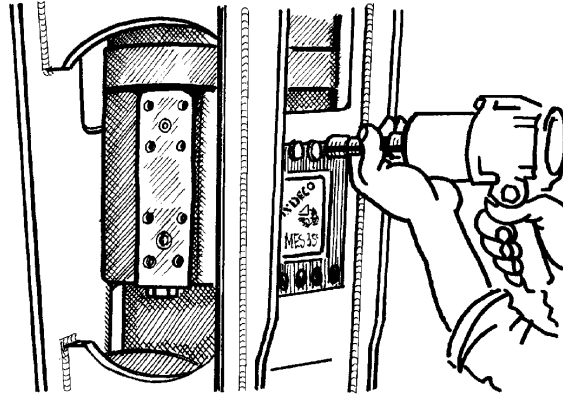

Fig. 27
Then remove the side shock-absorbers (side shocks) (pos. 602) by removing all the connection bolts with a spanner (fig. 27). Do not damage the threads. Preheat bolts to soften red (loc-tight) and if the breaker is horizontal, support the breaker about 50% with a strap to unload the side shocks. Clean thread with tap to remove remaining thread-locker